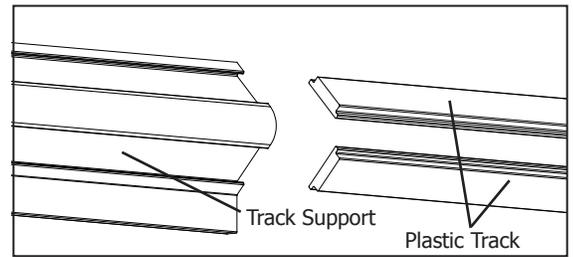

Fig. 5-3
**5-6:** Insert a plastic track completely into one side of the aluminum track supports. The plastic track should slide into the track support easily. If a plastic track binds slightly, try backing the track out a little, then try pushing it further. If the plastic binds badly, check the track supports for debris, burrs, misalignment or damage. (Fig. 5-3) In same manner, insert plastic track in otherside of the track support.